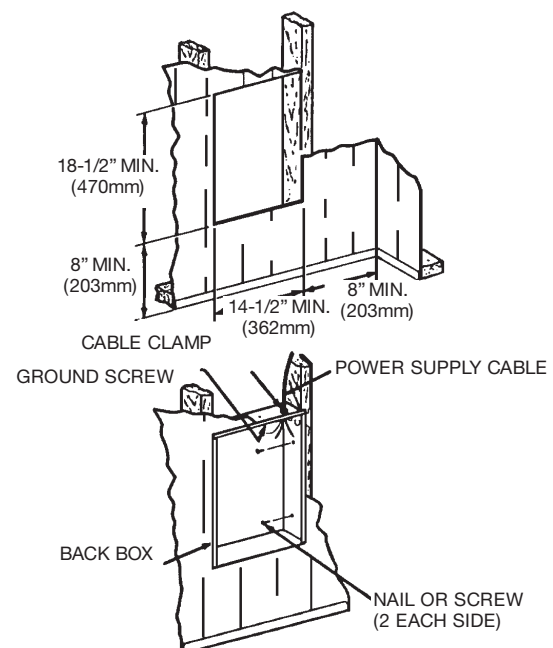

Figure 2: Locating Recessed Back Box in Existing Construction
1. Provide a wall opening 14-1/2" (362 mm) wide by 18-1/2" (470 mm) high at the desired mounting height, but no closer than 8" (203 mm) to adjacent wall or floor. (see Figure 2.)